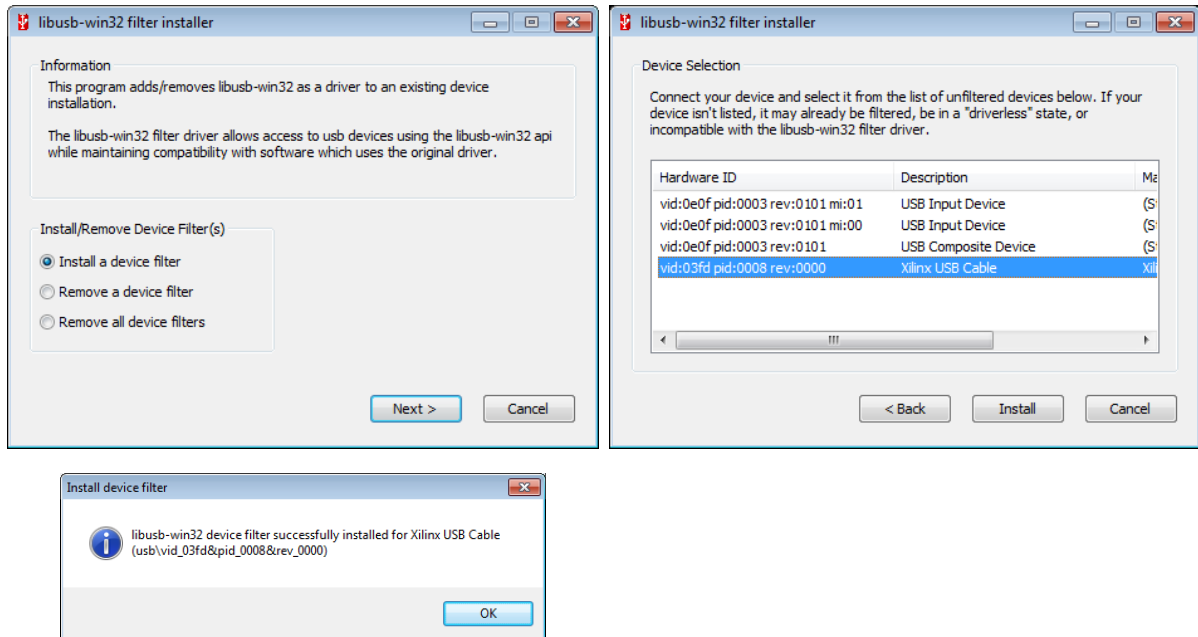

Figure 5.2.
4. At the first dialog, as seen in Figure 5.2, choose '**Install a device filter**' and press **Next**.